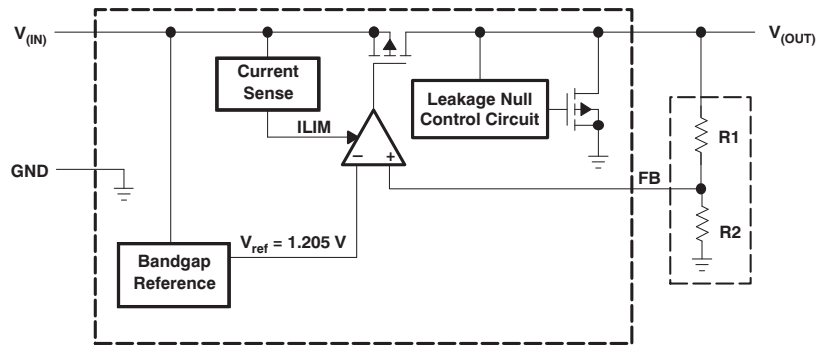

Figure 1. Functional Block Diagram—Adjustable Version
- (1) Minimum $V_{IN} = V_{OUT} + V_{DO}$ or the value shown for *Input voltage* in this table, whichever is greater.
(2) See Figure 1. The TPS715xx family employs a leakage null control circuit. This circuit is active only if output current is less than pass FET leakage current. The circuit is typically active when output load is less than $5\ \mu\text{A}$, V_{IN} is greater than 18 V , and die temperature is greater than $+100^\circ\text{C}$.